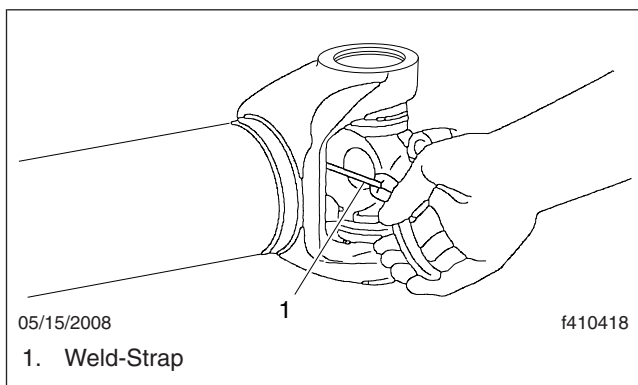

Fig. 5, Cutting the Weld-Strap
4. Cut the weld strap that retains the bearing cups. See Fig. 5. Remove both bearing cups. See Fig. 6.